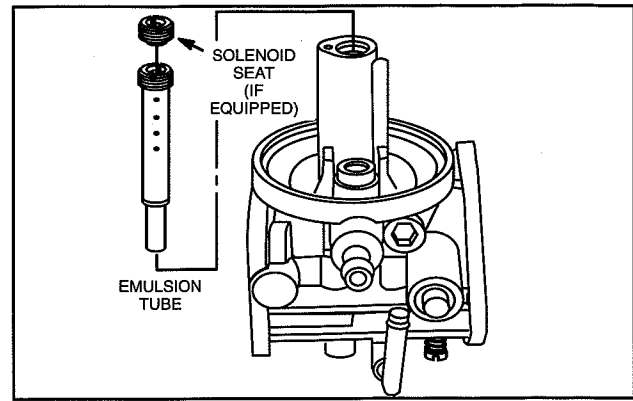

Fig. 27 – Removing Emulsion Tube
4. Remove emulsion tube, Fig. 27.
Note: If carburetor is equipped with solenoid, first remove solenoid seat, then remove emulsion tube, Fig. 27.